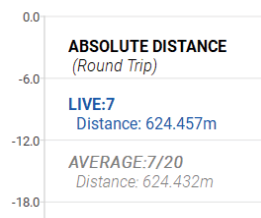

Figure 4-20. PIM Location Progress
- The Live PIM location measurement is shown in blue and the average PIM location measurement is shown in gray/green as shown in the figure 4-20.